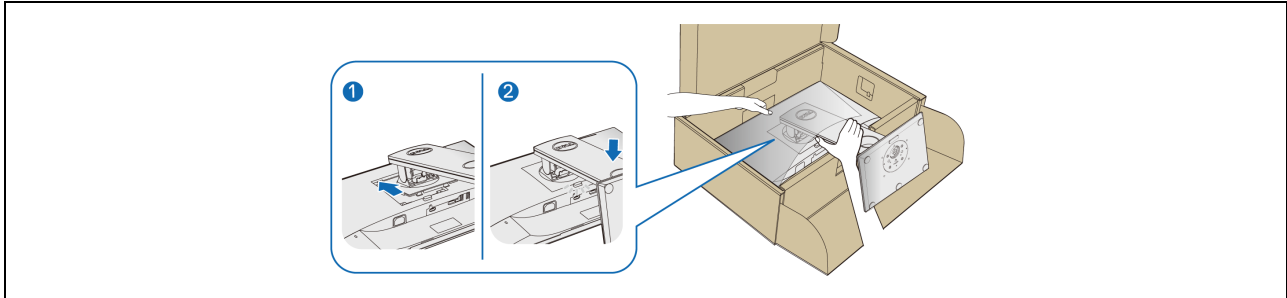

Figure 15: Attaching the stand
6. Attach the stand assembly to the monitor, as shown in Figure 15.